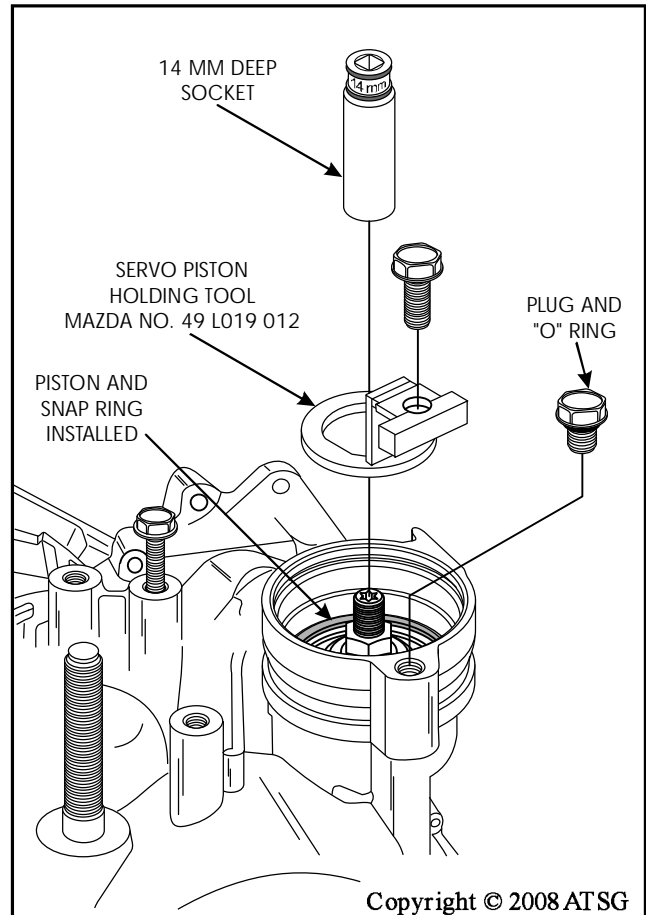

Figure 217
9. Remove the pressure plug and "O" ring, by the reduction servo, from transaxle case, as shown in Figure 217.
10. Install the factory servo piston holding tool, as shown in Figure 217.
11. Install 14mm deep socket over the adjusting screw locking nut and loosen (See Figure 217).